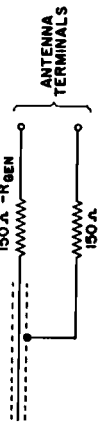
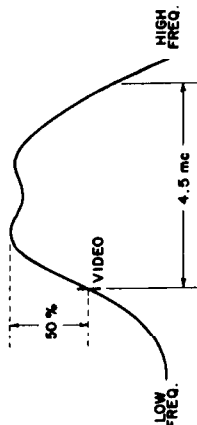

Figure 11
Figure 14. Ideal Response Curve
have a balanced output, connect it as shown in figure 11.) Check channels 2, 4, 6, 7, 9, 13 for overall response, keeping the generator output at a level which will provide approximately a 2-volt peak-to-peak output. If the set does not track properly, refer to the tuner alignment procedure.
9. Connect the signal generator (see figure 11) to the antenna terminals and the voltmeter in place of the oscilloscope.
3. Switch to channel 6 on the low band and set the balanced output; if it does channel 6 station selector screw out 1 turn from its not, connect it as shown in figure 11.
7. Connect a signal generator (see figure 11) to the antenna terminals and apply an 83.25-megacycle signal (channel 6 video-carrier frequency). A marker should appear on the oscilloscope (see figure 14).